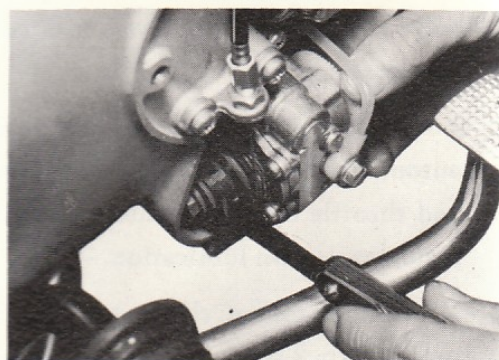

Fig. 2-3
- a. Using the adjusting shims, plunger stroke was set to 0.20~0.25mm. (with the adjusting pulley at minimum delivery position). (Fig. 2-3)